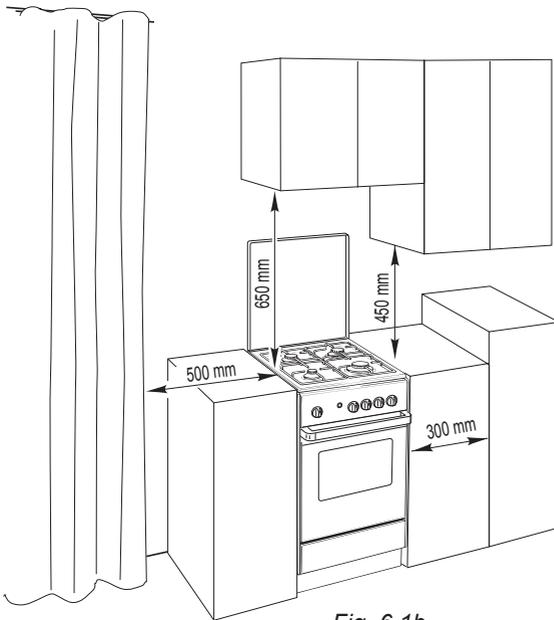

Fig. 6.1b
■ **Gas connection made using rigid or flexible metal pipe (fig. 6.1b).**